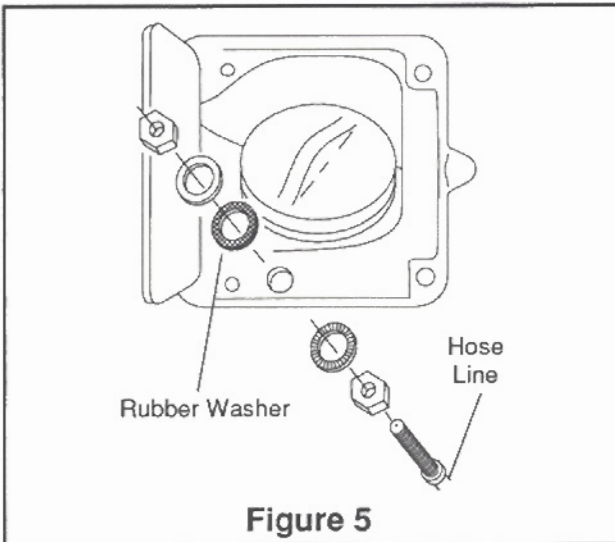

Figure 5
H. Drill 5/16" hole for inflating valves and mount as illustrated (Rubber washer for outside weather seal - Figure 5).